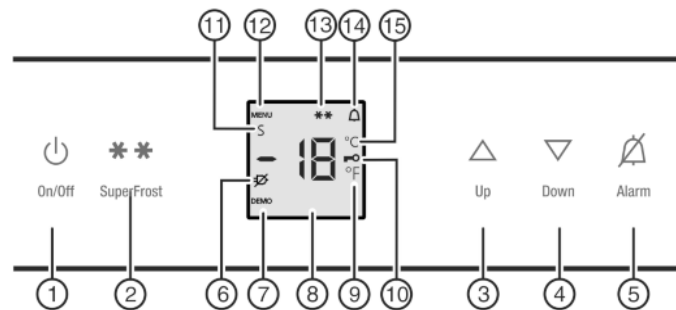

Fig. 2
- The SuperFrost symbol *Fig. 2 (13)* flashes together with the temperature display.*
- ▶ Press the On/Off button *Fig. 2 (1)*.
- ▶ To activate setting mode: Press and hold the SuperFrost button *Fig. 2 (2)* for approx. 5 s.
- ▷ The Menu symbol *Fig. 2 (12)* lights up.
- ▶ Using Up button *Fig. 2 (3)*/ Down button *Fig. 2 (4)* select °.
- ▶ To confirm: Briefly press the SuperFrost button *Fig. 2 (2)*.
- ▶ To exit setting mode: Press On/Off button *Fig. 2 (1)*.
- ▶ To activate setting mode: Press and hold the SuperFrost button *Fig. 2 (2)* for approx. 5 seconds.
- ▷ In the display, the Menu Symbol *Fig. 2 (12)* is displayed.
- ▶ Using the Up *Fig. 2 (3)* or Down button *Fig. 2 (4)*, select **c**.
- ▶ Confirm briefly by pressing the SuperFrost button *Fig. 2 (2)*.
- ▷ The Child Safety symbol *Fig. 2 (10)* lights up on the display.
- ▶ Press the On/Off button *Fig. 2 (1)* briefly.
- ▶ Press Alarm button *Fig. 2 (5)*.
At the same time, the Alarm symbol *Fig. 2 (14)* will flash.
The audible warning automatically ceases, the Alarm symbol *Fig. 2 (14)* goes out, and the temperature display stops flashing when the temperature is cold enough again.